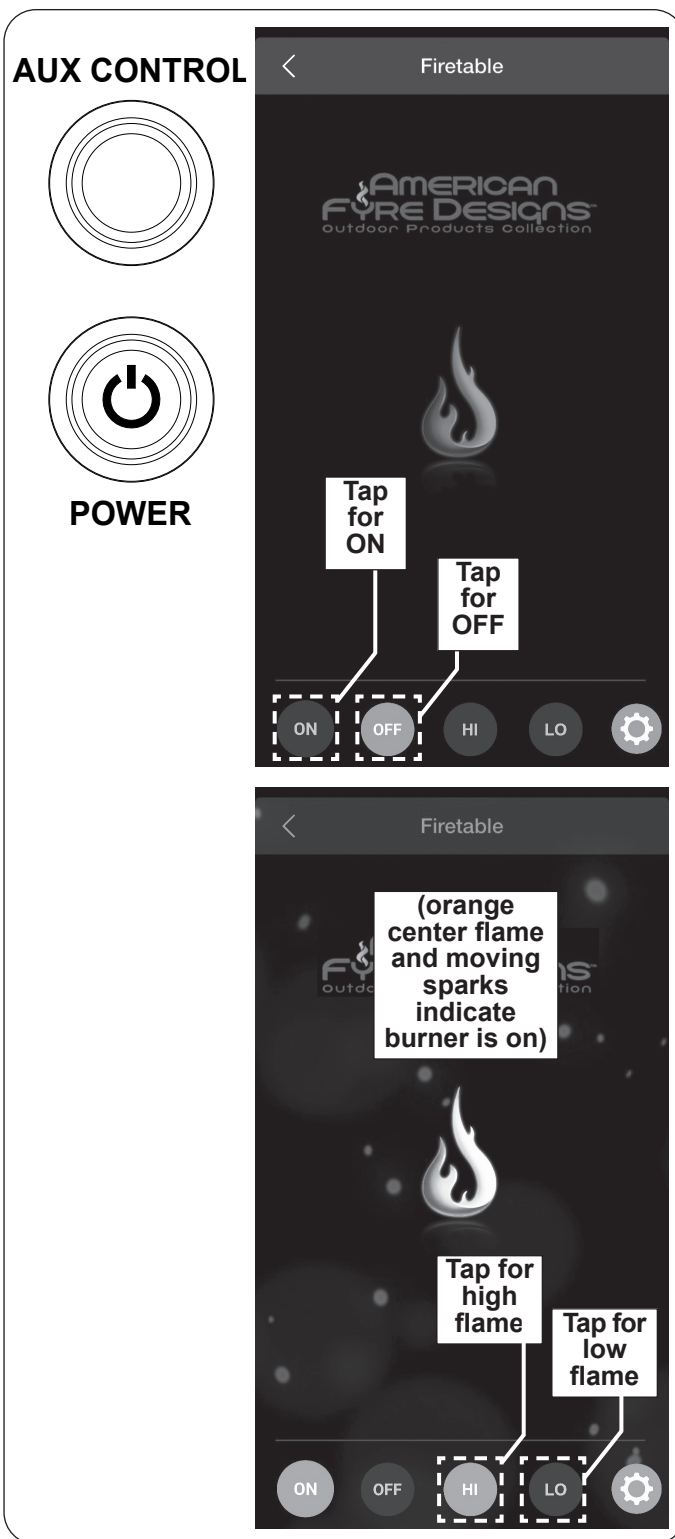

Fig. 41-1 Remote Operation:
1. Locate the control panel on the side of the unit (refer to the IDENTIFICATION PARTS LIST if needed), and identify the **AUX CONTROL** and **POWER** buttons (see Fig. 41-1).
3. From within the app, proceed to the Devices screen and select your unit. The remote screen will appear. See Fig. 41-1.
4. Tap the **ON** icon found on the bottom left of your remote screen (see Fig. 41-1).
The flame height can be adjusted via the remote app. Tap the **HI (high)** button to increase the flame height. Tap the **LO (low)** button to decrease the flame height. See Fig. 41-1. (LO setting available after 60 seconds.)
To shut down the burner (system will remain on), tap the **OFF** icon found on the bottom left of your remote screen. The screen will no longer display the orange center flame and moving sparks. See Fig. 41-1. The **AUX CONTROL** button indicator light will also go off.
To shut down the burner and system (total shutdown), or if the remote app is unavailable, push the **POWER** button on the control panel. See Fig. 41-1. The **POWER** and **AUX CONTROL** button indicator lights will go off. (Fully power off when covering or when not in use.)